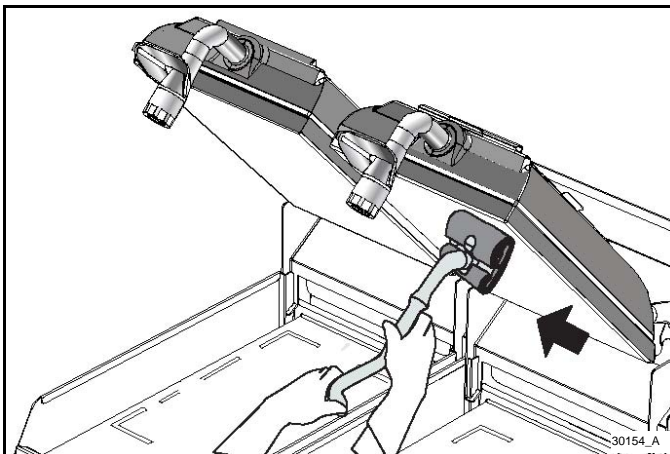

Figure-181
16. With all of the platens up, apply sufficient Kay® QSR heat activated grill & toaster cleaner to the grill tool pad and coat the edges of the upper platens with the product. See Figure-181.